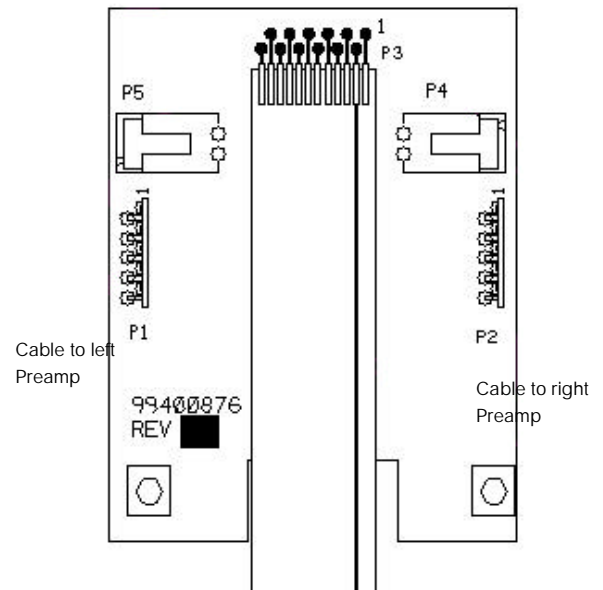

Figure 7-4-1
6. Use a DVM to measure the outputs of the four channels of the pre-amp. A convenient location to measure these are at connector P1 and P2 on the A/D PCB (Refer to figure 7-4-1). Place the ground lead on the power supply chassis and measure the output of pins 2,3,4,and 5. Typical readings are 1 to 4 volts with the lamp on and about 0 with the lamp off refer to table 7-1 below.
6. Measure the lamp voltage between pins 1 and 2 on both connector P4 and P5 (Refer to figure 7-4-1). The unloaded voltage should be between +5.8 VDC and +6.24 VDC.
8. Measure the voltages at pin 7 of connectors P1 and P2 (Refer to figure 7-4-1), voltages should be 4.95 VDC to 5.05 VDC.
9. Measure the voltages at pin 8 of connectors P1 and P2 (Refer to figure 7-4-1), voltages should be -5.2 VDC to -4.84 VDC.